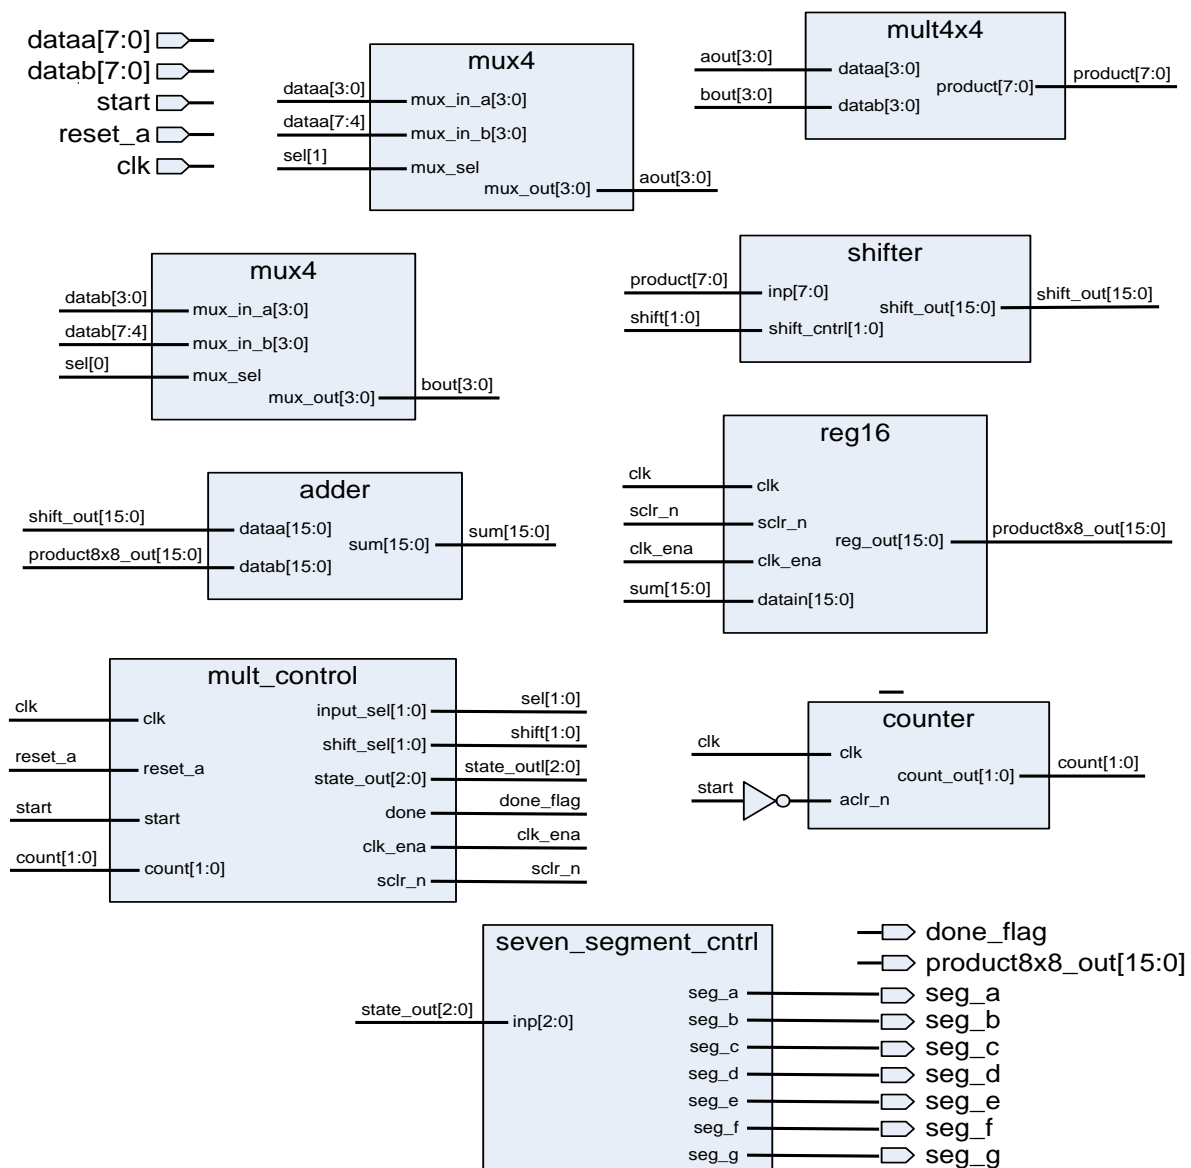

Figure 5-2 – 8 x 8 multiplier top level design block diagram
Making use of the knowledge you have gained up to this point, you must now instantiate each component in a top-level design and connect all signals as shown in Figure 5-2. Once your design compiles and simulates successfully, you have completed the labs for the Introduction to Verilog class.
- a. Declare a top-level module named **mult8x8** with the top-level ports as shown in Figure 5-2.
- b. Create instantiations for **mux4** (2 copies), **mult4x4**, **shifter**, **counter**, **mult_control**, **reg16**, **adder**, and **seven_segment_cntrl** based on the connections shown in Figure 5-2. Use **u6** as the instance name for **mult_control**. For other modules use any instance name you wish.
- c. This will require declaring new internal wires for connecting the blocks. Use the names from Figure 5-2.